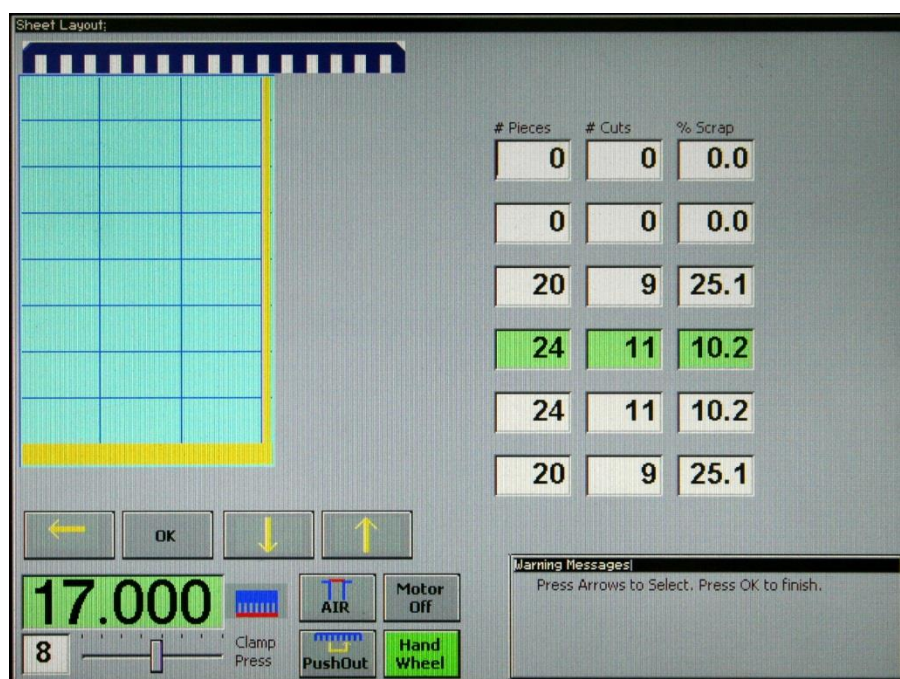

Figure 11 – Sheet Layout Screen
4. When finished entering dimensions and selecting options, press the OK key. A screen like the one shown in Figure 11 will be shown next, showing several layout options. The total number of finished pieces, total number of cuts, and percent scrap are shown for each layout option. Move through the different layout options by pressing the up or down arrow keys. A graphical representation of the layout will be shown for whichever layout option is selected.